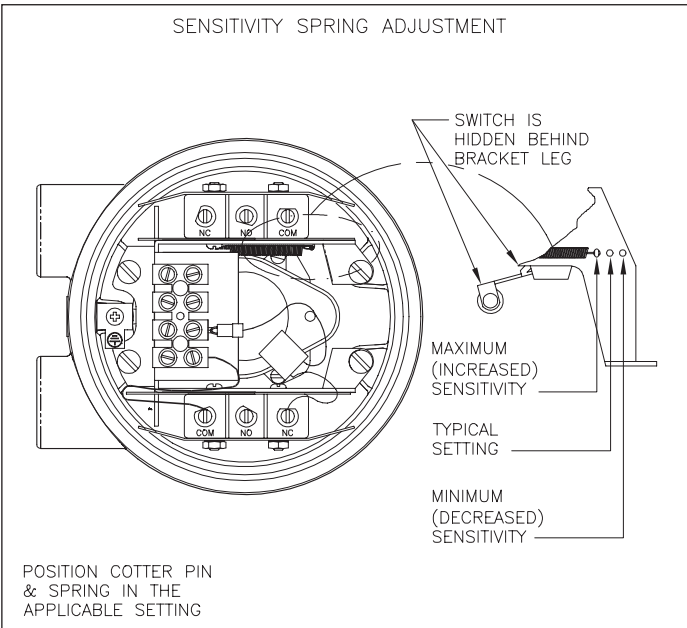

Figure 8
- 1) Setting Upon Receipt** - (See Figure 8) All rotary paddle bin monitors are shipped from the factory with the spring tension preset at the mid-range sensitivity setting. In most applications this setting results in acceptable operation assuming proper paddle selection. Setting can be verified by locating the cotter pin holding the spring to the switch bracket frame. The cotter pin will be inserted into the middle hole.